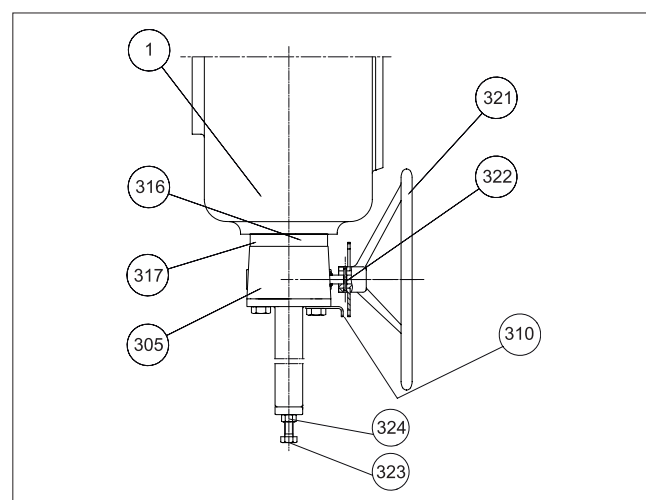

Fig. 29 B1JARR actuator
handwheel clockwise closes the valve. The B1JA actuator can be changed into a B1JARR by replacing the housing (1) and adding parts (305 to 324), see Fig. 29.
Parts list for Fig. 29: